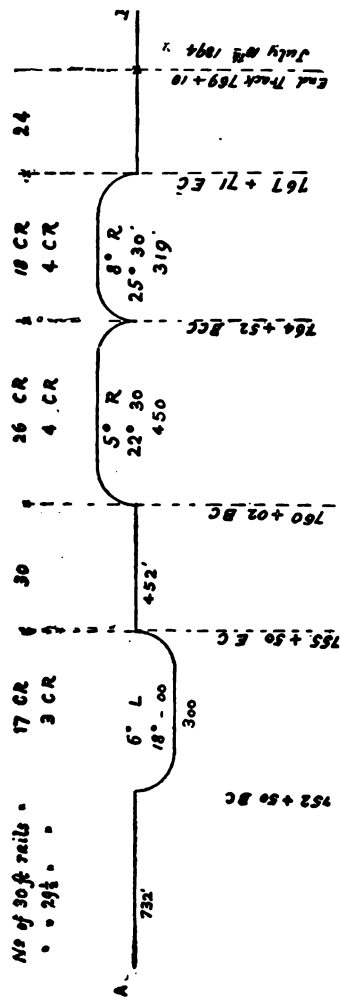

Fig. 30.
33. When laying track where curves are frequent, the writer uses blue print diagrams, as shown in Fig. 30, to avoid confusion in forwarding material at the front and laying the track.